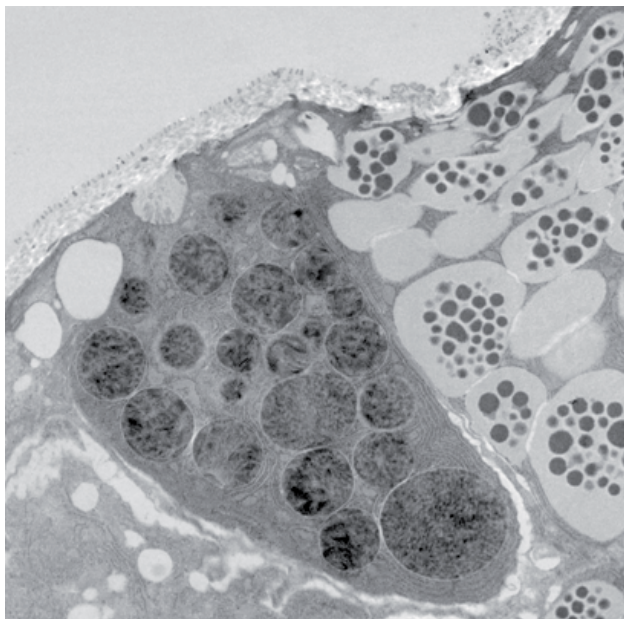

Fig. 1 Gland cell granules in the clitellum region of *Tubifex* sp.
The most widely used stains in electron microscopy are the heavy metals, uranium and lead. The double contrast method of ultrathin sections with uranyl acetate (UA) and lead citrate is the standard contrasting technique for electron microscopy (Fig. 1 and Fig. 2).